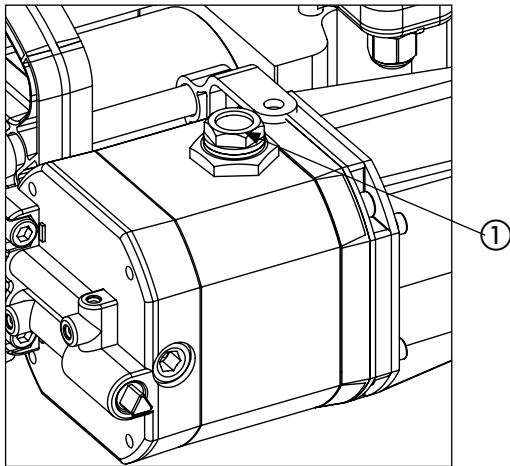

Fig.30
- 10) Add oil till the oil level is just below the cap (Fig. 30, ref. ①)